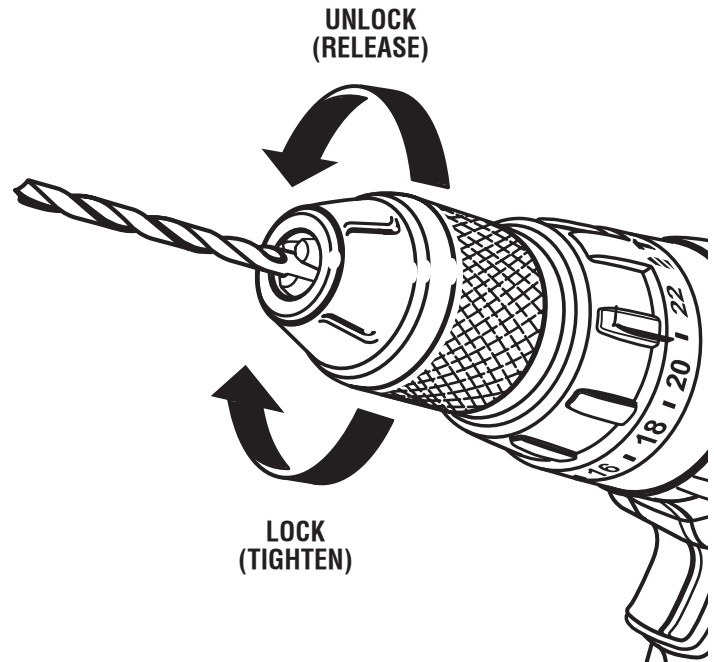

Fig. 9
See Figure 9 - 10.
- Insert drill bit straight into chuck the full length of the jaws as shown in figure 9. The drill bit must be inserted past the first set of carbide inserts, to a depth of 7/8 in.
See Figure 9.